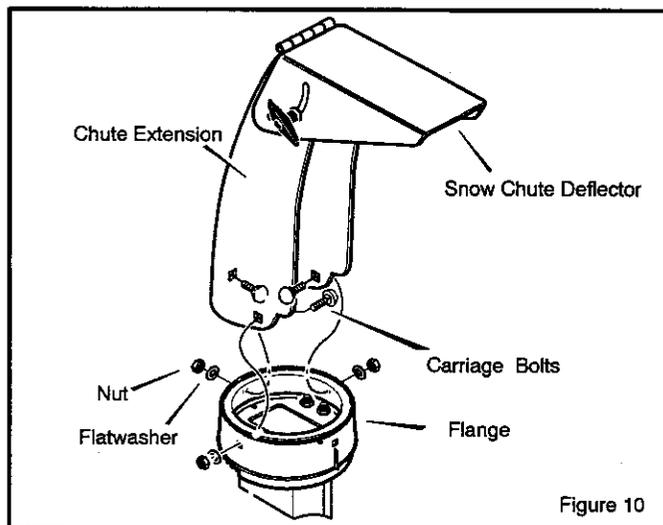

Figure 10
1. Position the snow chute onto the snow chute flange. Align the three holes in the snow chute with holes in snow chute flange. (See Figure 10)
2. Place three 5/16-18 carriage bolts from inside of chute as shown in Figure 10.